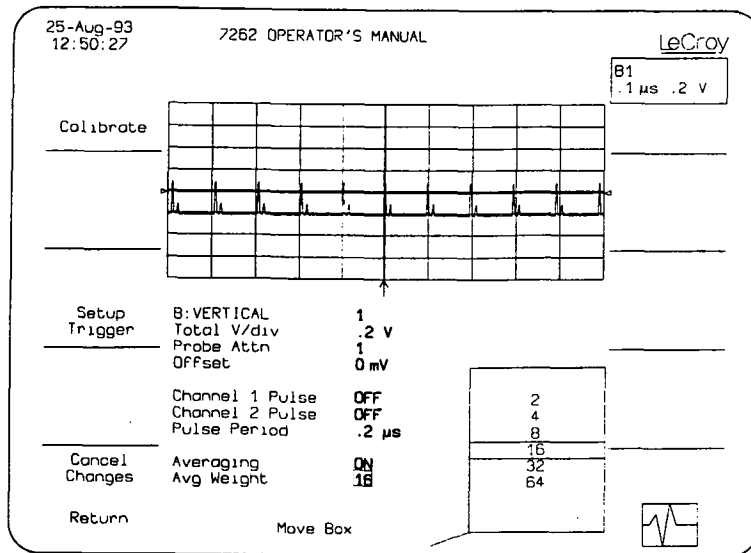

Figure 4.40:
- CH 1(8), or CH 2 (9)** Pressing the CH1 or CH2 key selects which channel the Vertical controls will modify. For example, when CH1 is pressed, adjusting a Vertical control such as the V/DIV knob, affects CH1 signal input. CH2 settings remain unchanged. The channel LED next to the key is lit to indicate the selected channel.
- AVERAGE ON (13)** Turns on waveform averaging in the plug-in. This is exponential averaging with a weighting factor determined in the vertical set-up menu. This will be described in the next section (see figure 4.40)
- AVERAGE OFF (12)** Turns off waveform averaging in the plug-in
In this display, all the enabled traces are shown in a half-screen grid above the Vertical Status information. As vertical controls are changed, the effects on the displayed traces are shown on the next acquisition. Figure 4.40 shows an example of the Vertical Status screen.
To modify a Vertical setting use the control knob directly centered and below the CRT. These are the controls labeled 16 and 17 in figure 3.1 of the *LeCroy 7200A precision digital oscilloscope operators manual*. These controls are further discussed in section 3 of that manual. Once a status screen is displayed, move the SELECT BOX ICON onto the field to be modified. The SELECT BOX will only move onto the fields that are able to be adjusted and are highlighted accordingly. An options list will indicate available choices, with the current choice in the center. In figure 4.40 on the following page, the select box is bracketing the choice for avg weight and the list at the left gives the possible options; 16 being currently selected.